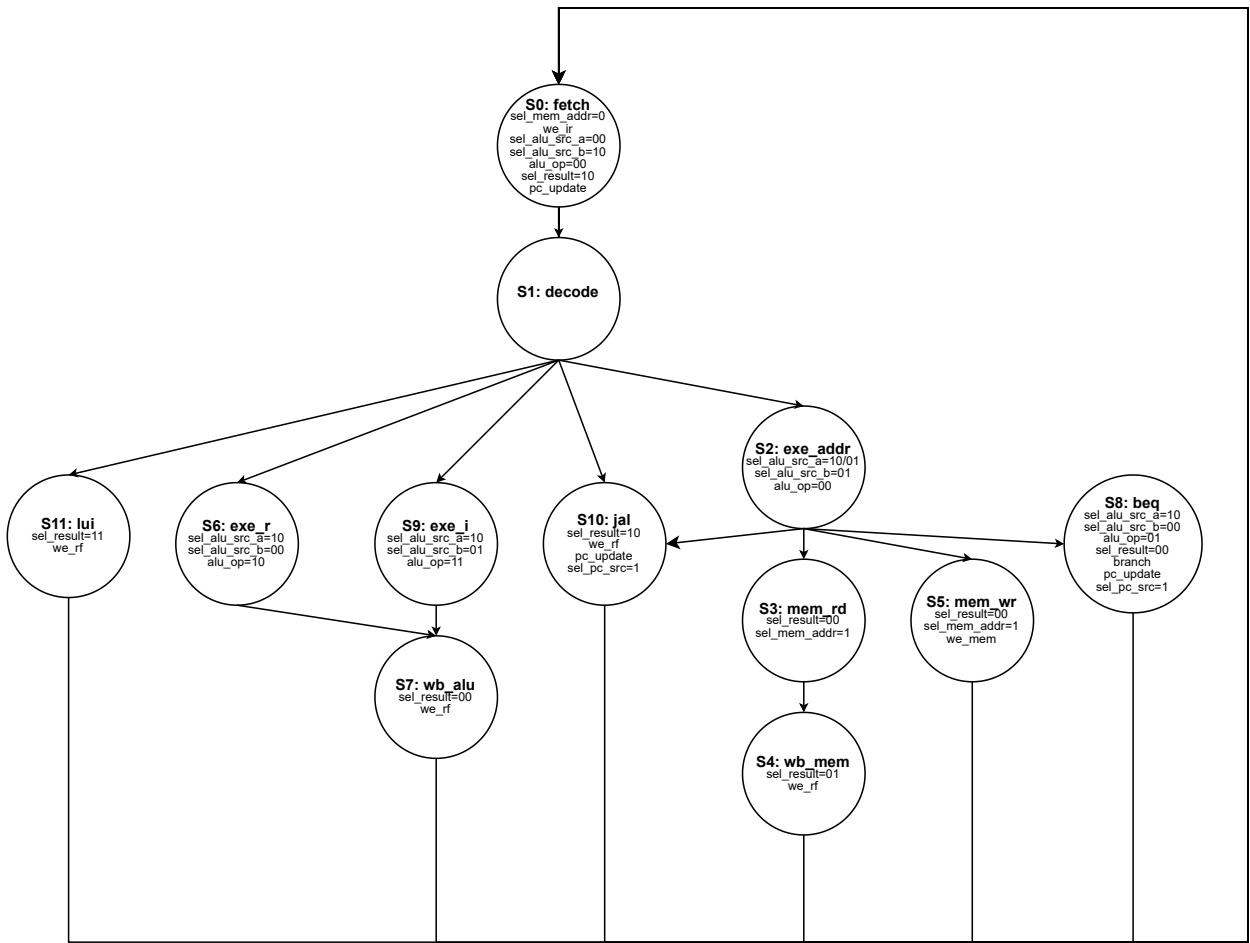

Figure 1: Complete FSM State Diagram with Control Signals
- **Question 1:** In Figure 1, some registers have write enable (en) while some do not. Explain why en is necessary or not.